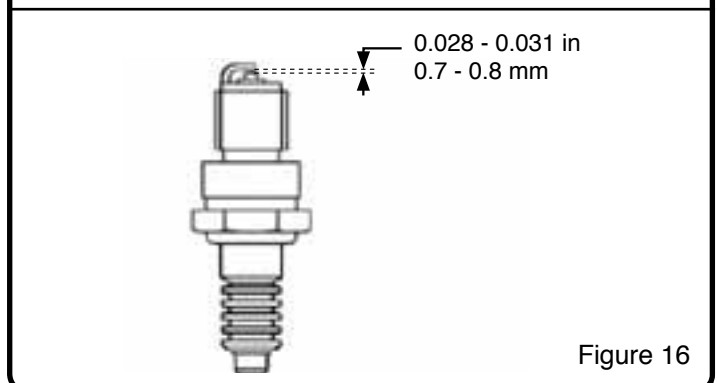

Figure 16
6. Check that the gap of the spark plug is 0.028-0.031 in. (0.7-0.8 mm). (See Figure 16)